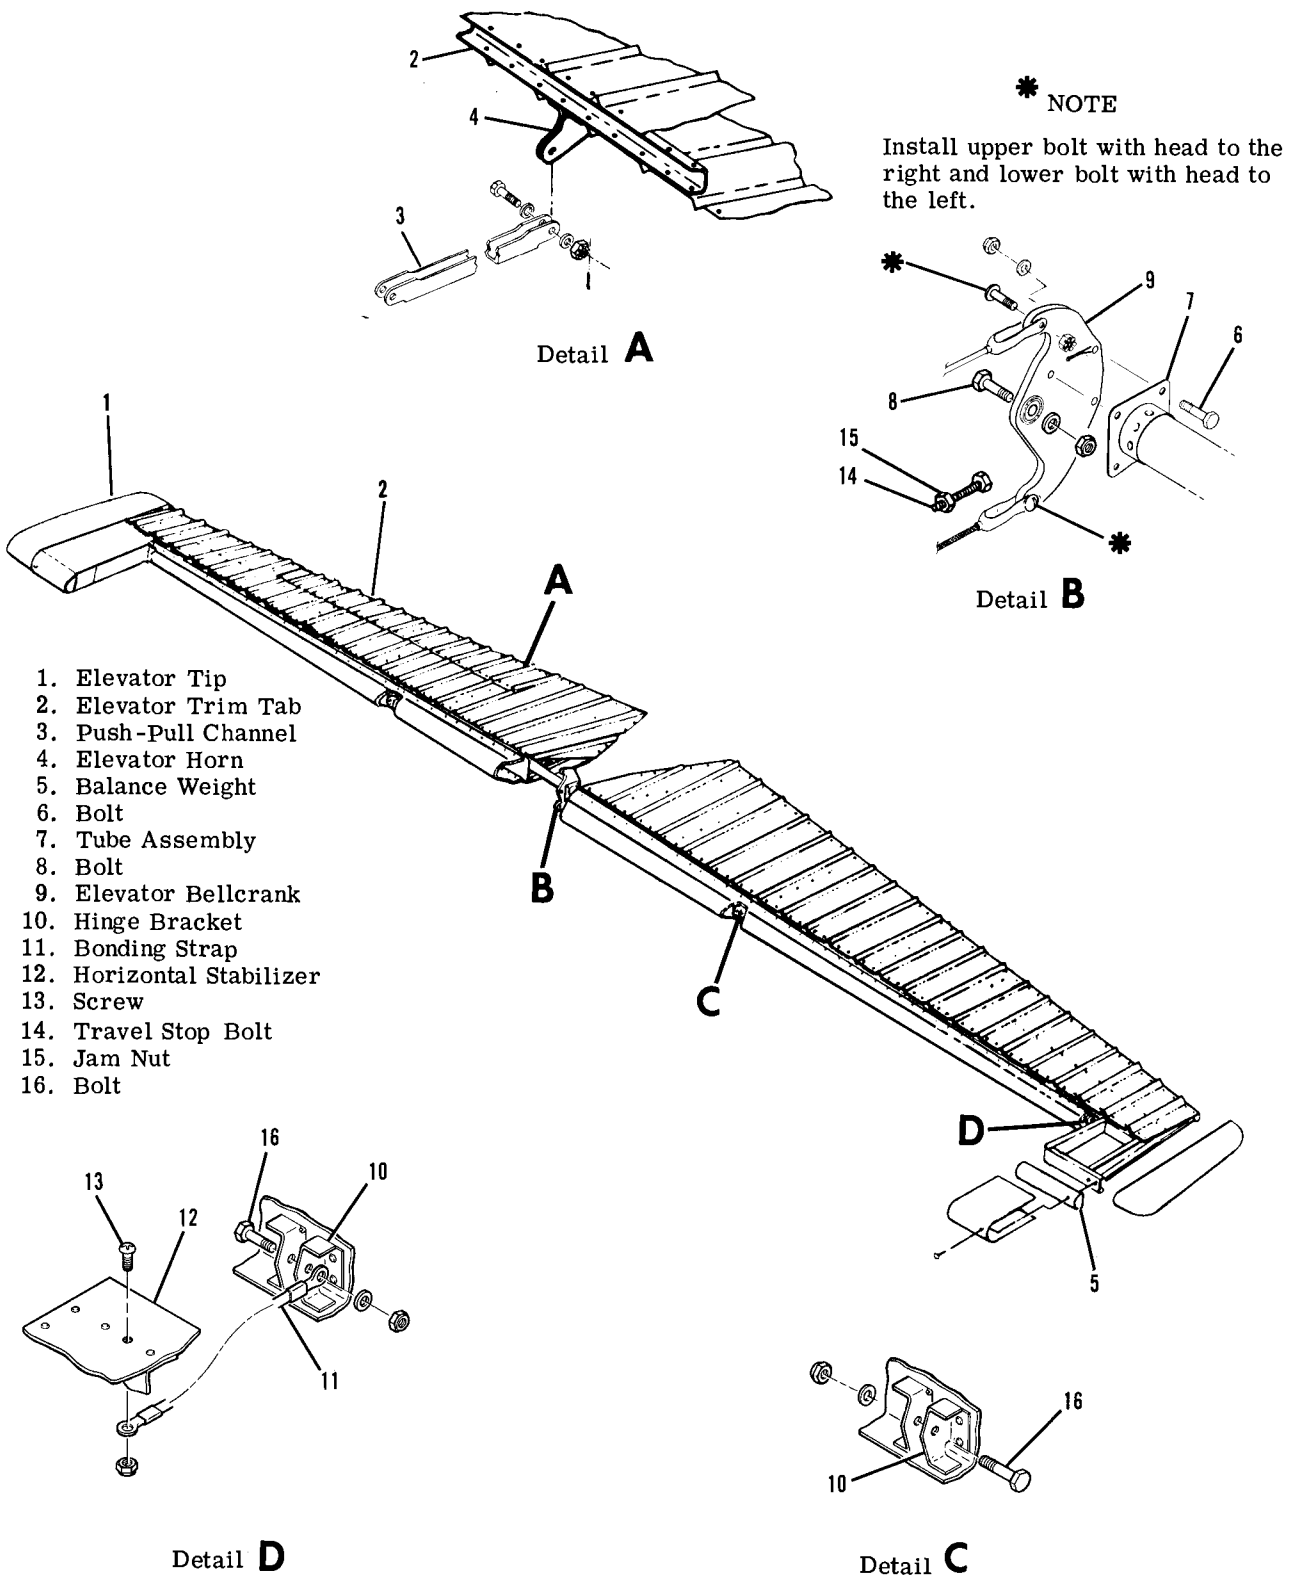

Figure 8-2. Elevator Installation
8-4. ELEVATORS. (Refer to figure 8-2.)
8-10. REAR. (Refer to figure 8-2.)
- e. Remove control column neutral rigging tool and adjust travel stop bolts (index 14, figure 8-2) to range of travel specified in figure 1-1.
- g. Safety turnbuckles (13) and travel stop bolts; check remainder of elevator control system for security and reinstall all items removed for access.
9-4. TRIM TAB. (Refer to figure 8-2.)